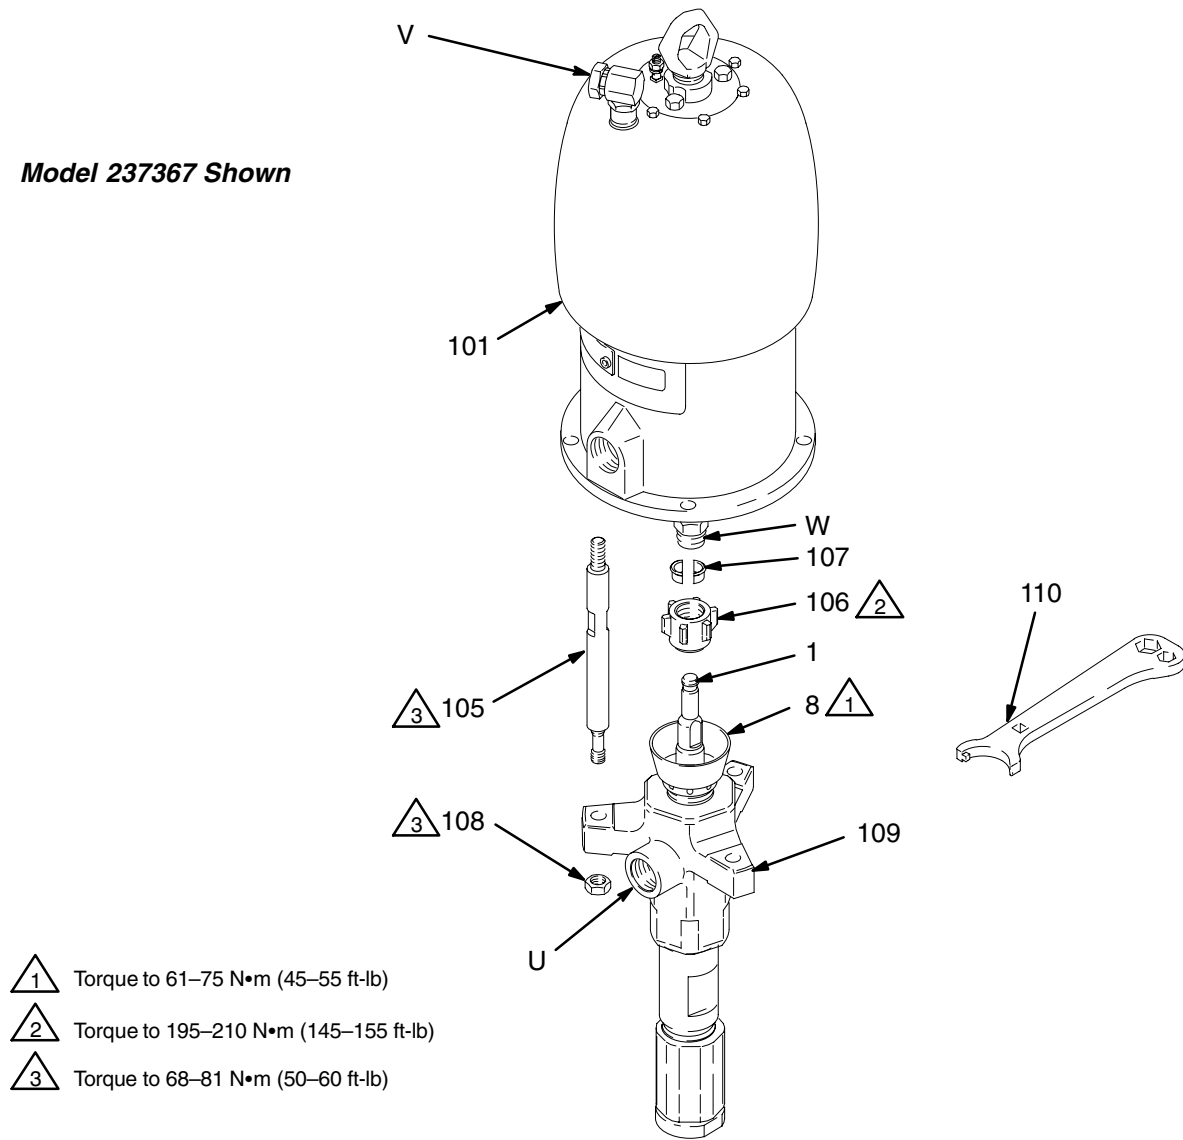

Fig. 5
5. Using an adjustable wrench (or hammer and punch), unscrew the coupling nut (106) from the motor shaft (W). Do not lose or drop the coupling collars (107). See Fig. 5.
6. Hold the tie rod flats with a wrench to keep the rods from turning. Unscrew the nuts (108) from the tie rods (105). Carefully remove the displacement pump (109) from the motor (101).
1. Make sure the coupling nut (106) and the coupling collars (107) are in place on the displacement rod (1). See Fig. 5.
2. Have one person hold the displacement pump while another reconnects it to the motor (see the **CAUTION** at left). Orient the pump's fluid outlet (U) to the air inlet (V) as was noted in step 4 under **Disconnecting the Displacement Pump**. Position the displacement pump (109) on the tie rods (105).
3. Screw the nuts (108) onto the tie rods (105) and torque to 68–81 N•m (50–60 ft-lb).
4. Screw the coupling nut onto the motor shaft (W) loosely. Hold the motor shaft flats with a wrench to keep it from turning. Use an adjustable wrench to tighten the coupling nut. Torque to 195–210 N•m (145–155 ft-lb).
5. Reconnect all hoses. Reconnect the ground wire if it was disconnected. Fill the packing nut (8) 1/3 full of Graco Throat Seal Liquid or compatible solvent.